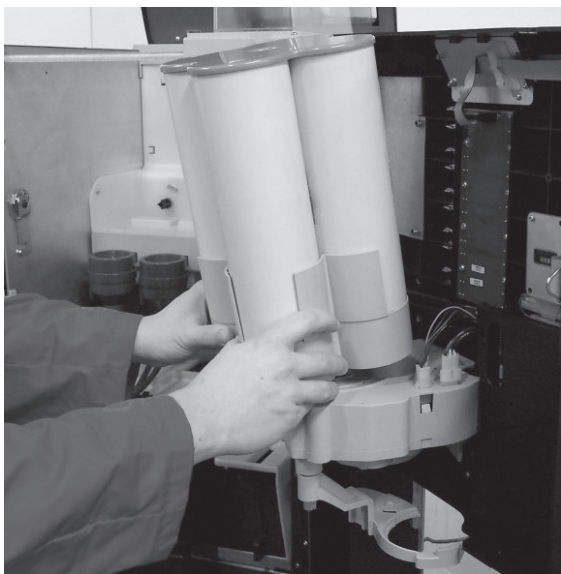

fig.27
- remove the cup holder (fig. 27)